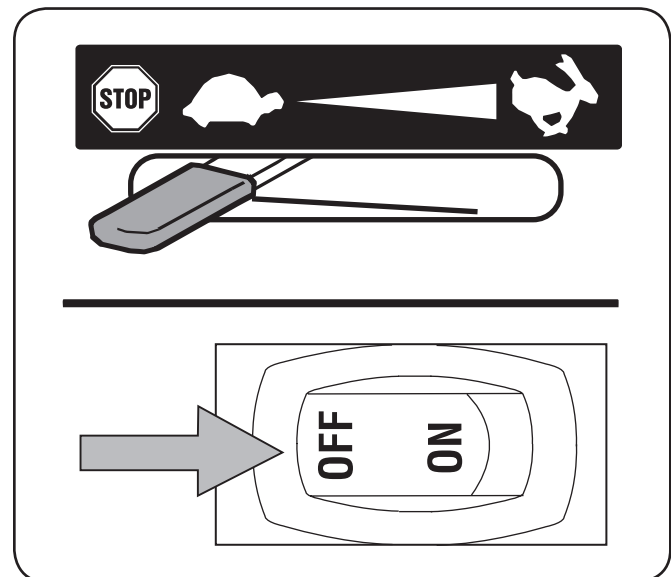

Figure 5-2
1. Move throttle control lever to STOP position (if equipped) or push rocker switch to OFF. See Figure 5-2.